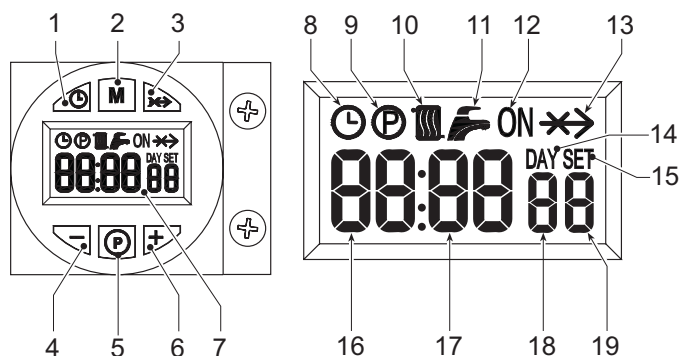

fig. 1 - Control panel
The lighting request (generated on closing of the contact on terminals 7-8 (see fig. 17), in default setting conditions) is indicated by activation of the radiator symbol (detail 10 - fig. 1).
1. Press the day/time setting button (detail 1 - fig. 1).
2. The CLOCK and DAY icons flash on the display (detail 7 - fig. 1): set the current day of the week with the + and - buttons (details 4 and 6 - fig. 1), considering that 1=Monday, 7=Sunday. Confirm the day by pressing the day/time setting button (detail 1 - fig. 1).
3. The two digits of the CURRENT HOUR and the CLOCK icon flash on the display (detail 7 - fig. 1): set the exact hour with the + and - buttons (details 4 and 6 - fig. 1), from 00 to 23. Confirm the hour by pressing the day/time setting button (detail 1 - fig. 1).
4. The two digits of the CURRENT MINUTES and the CLOCK icon flash on the display (detail 7 - fig. 1): set the exact minutes with the + and - buttons (details 4 and 6 - fig. 1), from 00 to 59. Confirm the minutes by pressing the day/time setting button (detail 1 - fig. 1). Automatic Heating, Manual On, Manual Off mode
Press the operation mode selection button (detail 2 - fig. 1) to set the:
1. In Automatic mode, the display (detail 7 - fig. 1) shows the CLOCK icon. The burner activation and deactivation request depends on the set weekly programme. In the request time band, the display (detail 7 - fig. 1) also shows the ON icon.
2. In Manual On mode, the display (detail 7 - fig. 1) only shows the ON icon. The burner is always in request status.
3. In Manual Off mode, the display (detail 7 - fig. 1) does not show the ON icon or the CLOCK icon. The burner is off.
The weekly programme is preset with 3 ON time bands and 3 OFF time bands; equal for every day of the week. In the request time band, the display (detail 7 - fig. 1) shows the ON icon.
1. Press the Programming button "P" (detail 5 - fig. 1)
2. Select the day to be programmed with the + and - buttons (details 4 and 6 - fig. 1):
3. Press the Programming button "P" (detail 5 - fig. 1):
- Use the + and - buttons (details 4 and 6 fig. 1) to modify the start of the 1st ON time band; e.g. 06:00Press the Programming button "P" (detail 5 - fig. 1)
- Use the + and - buttons (details 4 and 6 fig. 1) to modify the start of the 1st OFF time band; e.g. 09:00Press the Programming button "P" (detail 5 - fig. 1)
- Use the + and - buttons (details 4 and 6 fig. 1) to modify the start of the 2nd ON time band; e.g. 12:30Press the Programming button "P" (detail 5 - fig. 1)
- Use the + and - buttons (details 4 and 6 fig. 1) to modify the start of the 2nd OFF time band; e.g. 14:00Press the Programming button "P" (detail 5 - fig. 1)
- Use the + and - buttons (details 4 and 6 fig. 1) to modify the start of the 3rd ON time band; e.g. 16:00Press the Programming button "P" (detail 5 - fig. 1)
- Use the + and - buttons (details 4 and 6 fig. 1) to modify the start of the 3rd OFF time band; e.g. 23:30Press the Programming button "P" (detail 5 - fig. 1)
11. Press the Programming button "P" (detail 5 - fig. 1) for 3 seconds to exit the programming mode.
Press the programming button "M" (detail 2 - fig. 1) for 5 seconds to access the parameters menu. Parameter "u01", identified by the message SET 01, is displayed. Press the button "P" (detail 5 - fig. 1) to scroll the list of parameters.
To modify the value of a parameter, press the + and - buttons (details 4 and 6 - fig. 1): the change will be automatically saved. After modifying the parameter, it is necessary to wait 3 seconds: the datum item flashes and is saved.